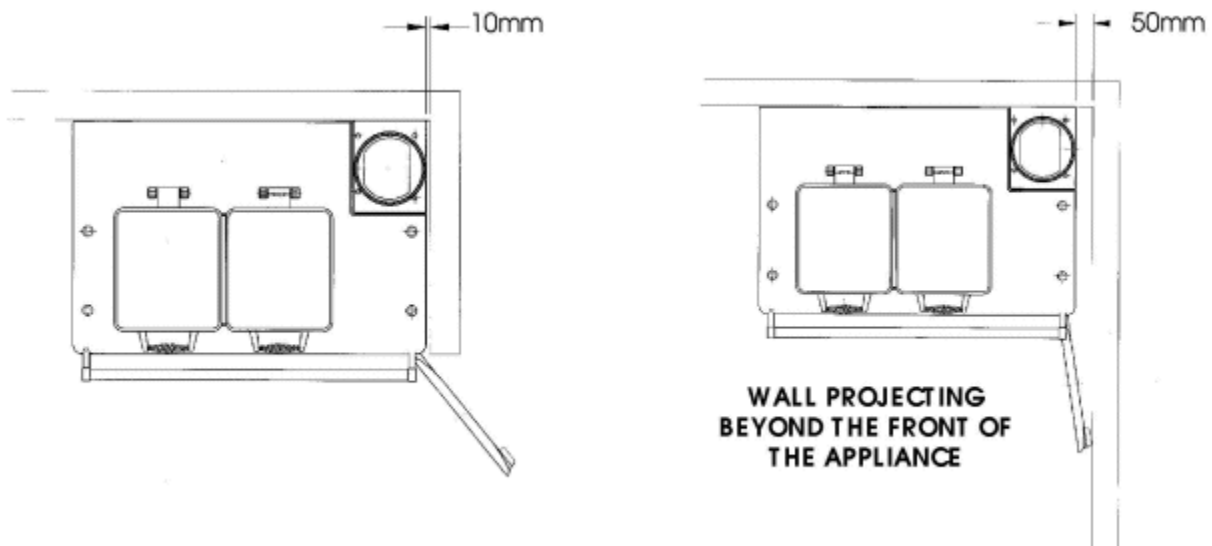

Fig. 4
OR IF THE WALL PROJECTS BEYOND THE FRONT OF THE APPLIANCE - 50mm (See Fig. 4 )
**NOTE:** IF THE REAR WALL IS OF COMBUSTIBLE MATERIAL, THERE MUST BE AN AIR GAP OF 25mm BETWEEN THE WALL AND REAR AS SHOWN IN FIG.4.